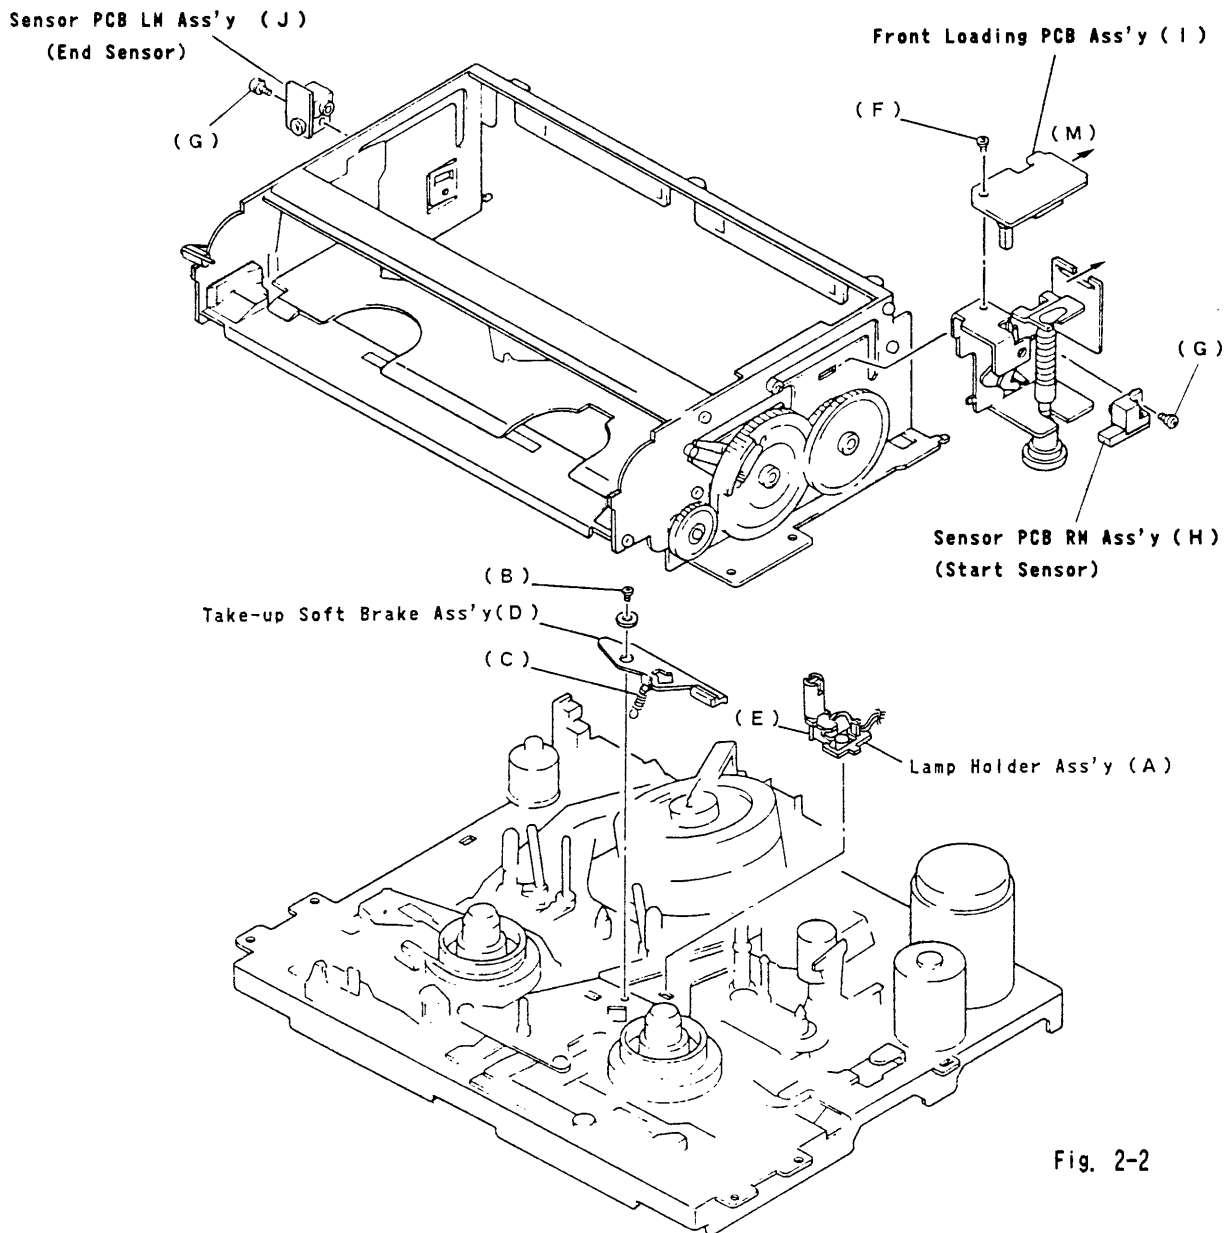

Fig. 2-2
1. Remove screw (E).
2. Take off the Cassette Load Bracket Ass'y (F).
(3) Photo Sensor (Fig. 2-2)